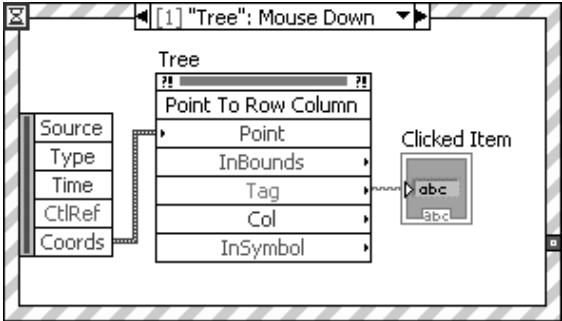

Figure 13.140
4. Add an event for the Tree control's **Mouse Down** event, as shown in Figure 13.140. Create an **Invoke Node** that calls the Tree control's **Point To Row Column** method, and wire the **Coords** event data into the **Point** argument of the method—this will convert the mouse coordinates into information about where the mouse is currently located on the tree control.